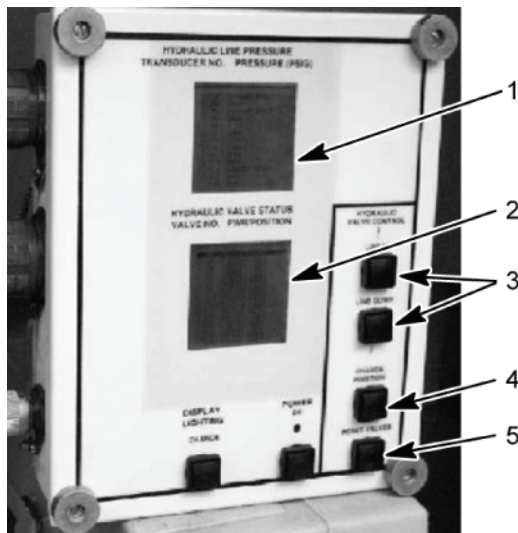
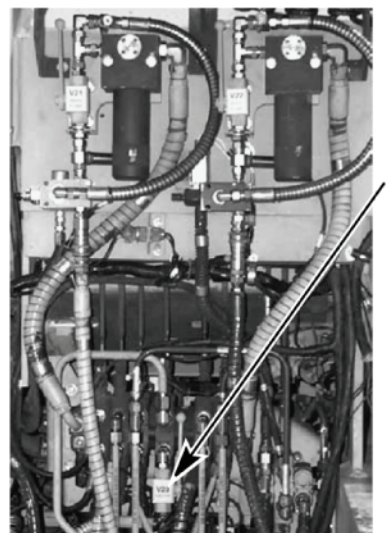
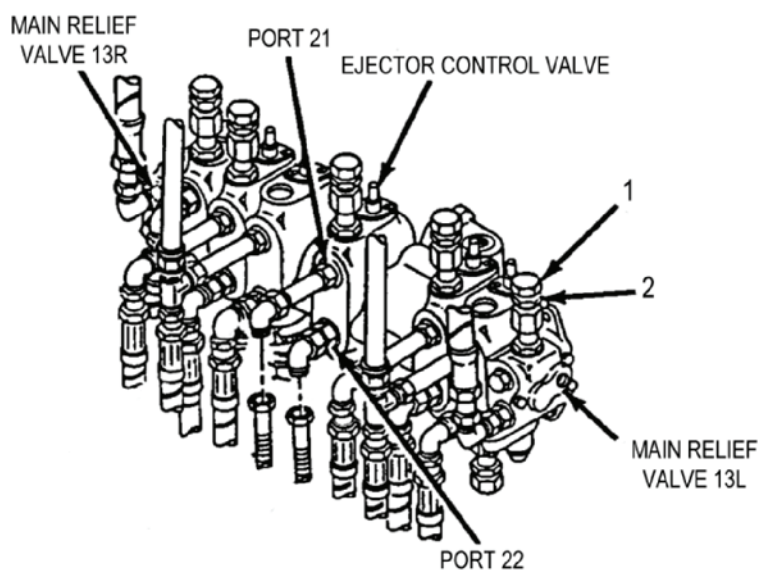

Figure 21. HDC Control Box
Figure 22. DCV Bank
Figure 23. Main Relief Valve
- Disable ejector by manually closing the ejector inhibit ball valve V23 (Figure 22, item 1) on the DCV bank. Using LINE UP or LINE DOWN button (Figure 21, item 3), select V1 on the HDC display (Figure 21, item 2). Close V1 on the HDC display (Figure 21, item 2) by selecting the CHANGE POSITION button (Figure 21, item 4) on the HDC control box.
- With SPRUNG/UNSPRUNG lever in SPRUNG, have assistant move left hand SUSPENSION CONTROL lever to RAISE, while at the same time, holding EJECTOR CONTROL lever in BACK. Observe transducer T-4 hydraulic pressure on the HDC display (Figure 21, item 1). If pressure is not within limits adjust the main relief valve 13L by loosening jam nut (Figure 23, item 2) and rotating adjustment screw (Figure 23, item 1) clockwise to increase pressure; counter clockwise to decrease pressure. When hydraulic pressure is within limits, tighten jam nut (Figure 23, item 2).